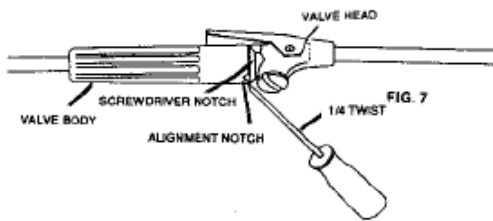

FIG. 7
- Insert small blade screw driver into notch and twist ¼ turn to separate valve body from valve head. SEE FIG. 7
- (d) Align valve body with valve head and snap together tightly. SEE FIG. 7